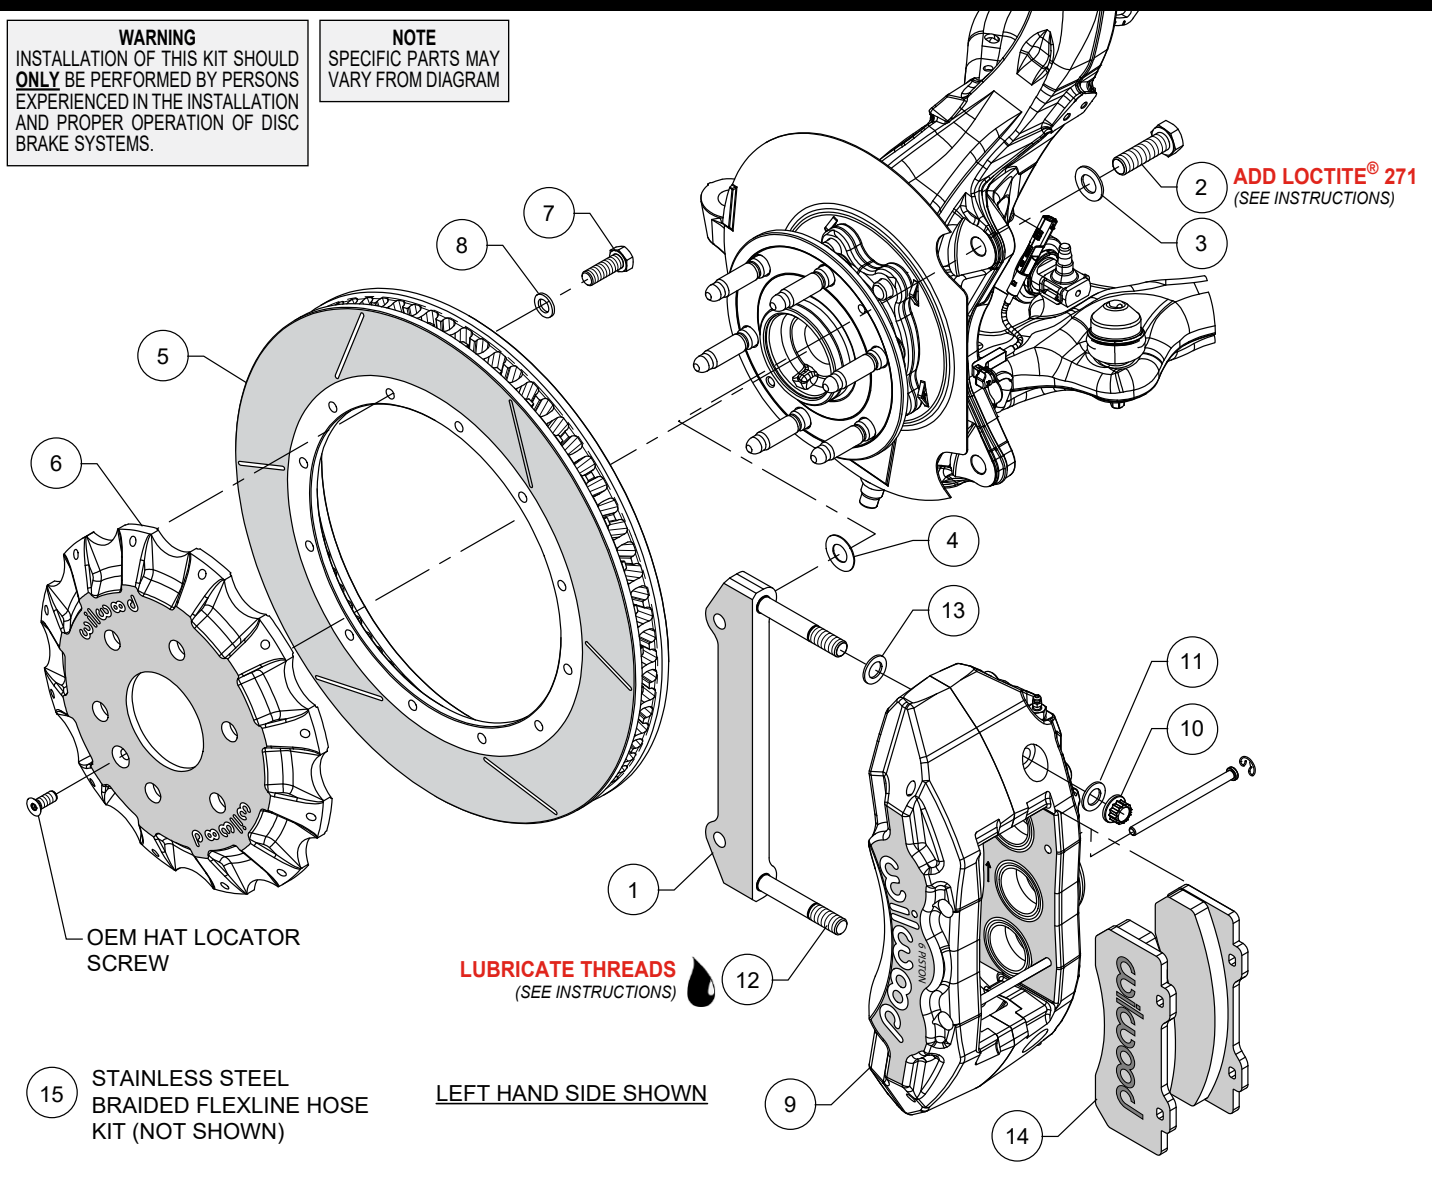
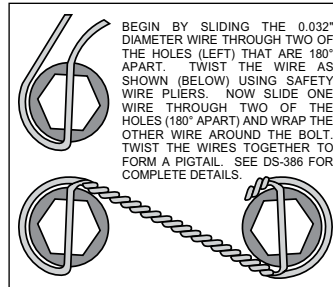

Figure 1. Typical Installation Configuration
Figure 3. Safety Wire Diagram
NOTE: Numbers in parenthesis refer to the parts list and Figure 1 on the preceding pages.
- The caliper mount bracket (1) should initially be installed with clean, dry threads on the mounting bolts. Orient the bracket as shown in Figure 1, and install using bolts (2) and washers (3). Initially place one .029 thick shim (4) on each bolt between the bracket and upright, Figure 1. Temporarily tighten the mounting bolts.
- Orient the rotor (5) and the hat (6) as shown in Figure 1 and Photo 2. Attach rotor to hat using bolts (7) and washers (8). Apply red *Loctite*[®] 271 to the bolt threads and torque to 25 ft-lbs using a criss-cross pattern. For an added measure of security, the bolts may be safety wired using standard 0.032 inch diameter stainless steel safety wire as shown in Figure 3. Please refer to Wilwood's data sheet DS-386 (available at www.wilwood.com/Pdf/DataSheets/ds386.pdf) for complete safety wire installation instructions.
- NOTE:** This kit contains distinct right and left hand calipers that must be mounted in a specific direction, as described below. Lubricate the caliper mounting studs (12) with lightweight oil. Initially place one .032" thick shim (13) on each stud as shown in Figure 1 and Photo 3. Mount the caliper (9) onto the bracket (1) using lock nuts (10) and washers (11), Figure 1. Ensure that the caliper is mounted so that the largest pistons are at the rotor exit end of the caliper, in relation to the direction of rotor rotation. Temporarily tighten the lock nuts and view the rotor through the top opening of the caliper. The rotor should be centered in the caliper, Photo 4. If not, adjust by adding or subtracting shims (4) between the bracket and the upright. Always use the same amount of shims on each of the two mounting bolts. Once the caliper alignment is correct, remove the bracket mounting bolts (2) one at a time, apply red *Loctite*[®] 271 to the threads, and torque to 77 ft-lb.
- Remove the two pad retaining pins from the caliper by carefully popping out the pin retaining clips and sliding out the pins. Insert the brake pads (14) into the caliper, with the friction material facing the rotor, as shown in Photo 5 and secure the brake pads in place with the pad retaining pins and clips, Photo 6. Check that the top of the brake pad is flush with the outside diameter of the rotor, Photo 7. If not, adjust by adding or subtracting shims (13) between the caliper and the bracket. After the caliper pad height is set, torque the caliper lock nuts (10) to 65 ft-lb.